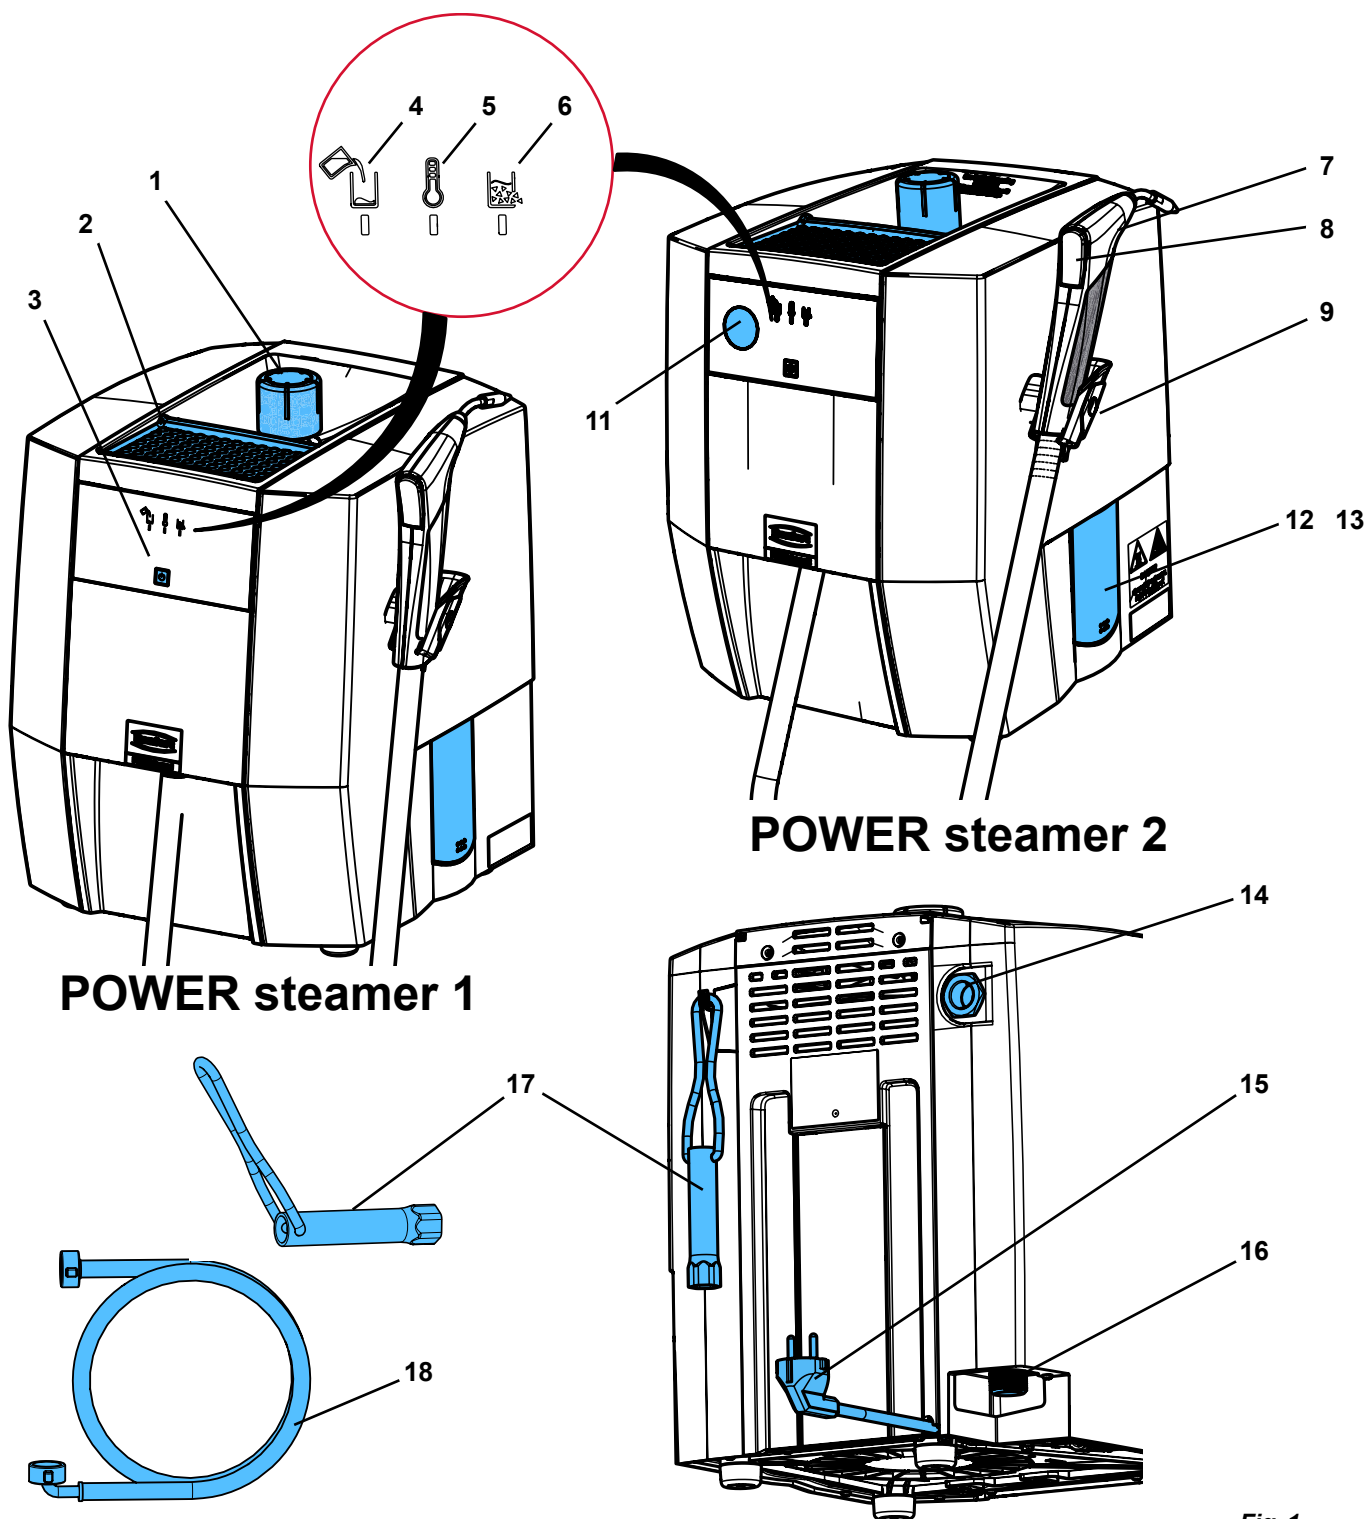

Fig. 1
- ▶ Place the unit so that there is no risk if steam is discharged from the outlet opening of the over-pressure valve (14, Fig. 1).
Plaster models or investment models can be left to dry on the model tray (2, Fig. 1).
⇒ Screw in the tank cap (1, Fig. 1).
Place the unit so that there is no risk if steam is discharged from the outlet opening of the overpressure valve (14, Fig. 1). For example, do not place the unit in front of an electrical socket.
The outlet opening of the overpressure valve (14, Fig. 1) must not be closed or blocked in any way.
Danger due to pressurized steam! Before opening the revision cap, ensure that the pressure tank is no longer pressurized. To do so, open the tank cap (1, Fig. 1) and remove it.
⇒ Place the unit so that water can flow from the service opening (12/13, Fig. 1) into a sink.